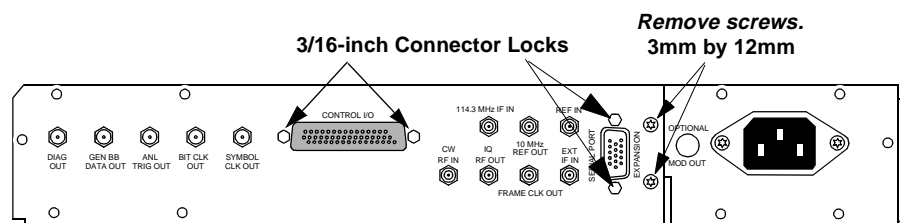
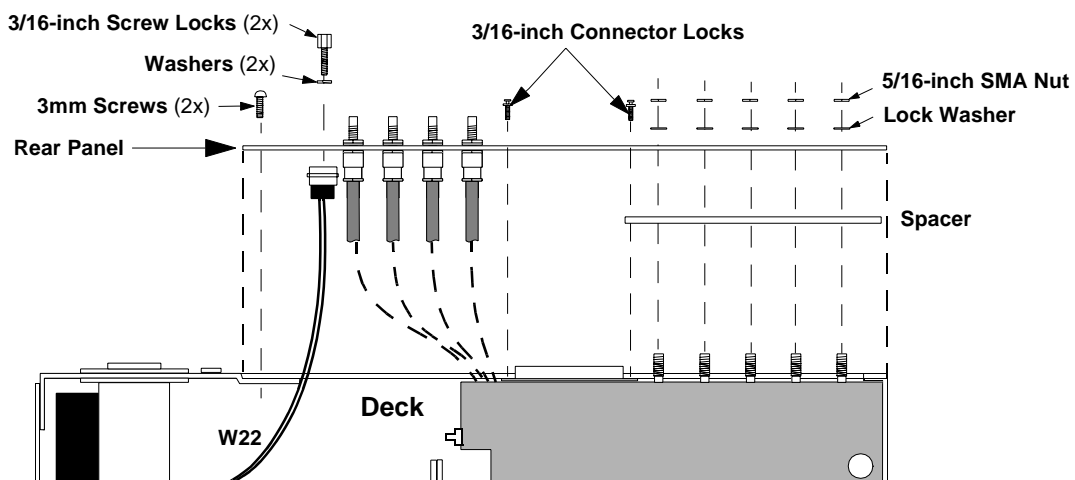

Figure 22 Removing the Rear Panel Connector Locks and Screws
Figure 23 Removing the Rear Panel
2. Remove the 3/16-inch connector locks and two 3mm by 12mm screws shown in figure 22 and figure 23.
3. With a 5/16-inch wrench or nut driver remove five SMA nuts and lock washers and pull the rear panel away from the deck as shown in figure 23.